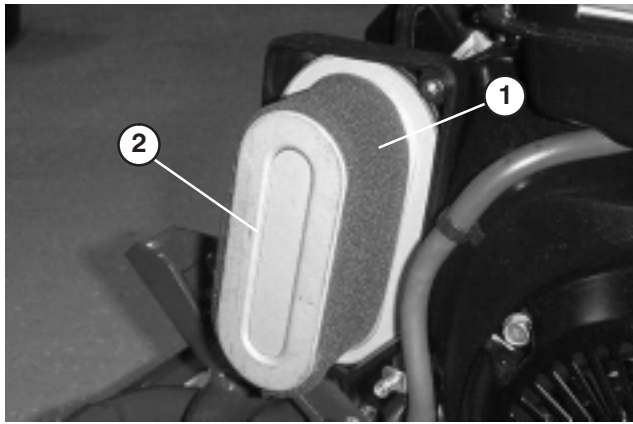

Figure 31
3. If foam element is dirty, remove it from paper element (Fig. 31). Clean thoroughly.